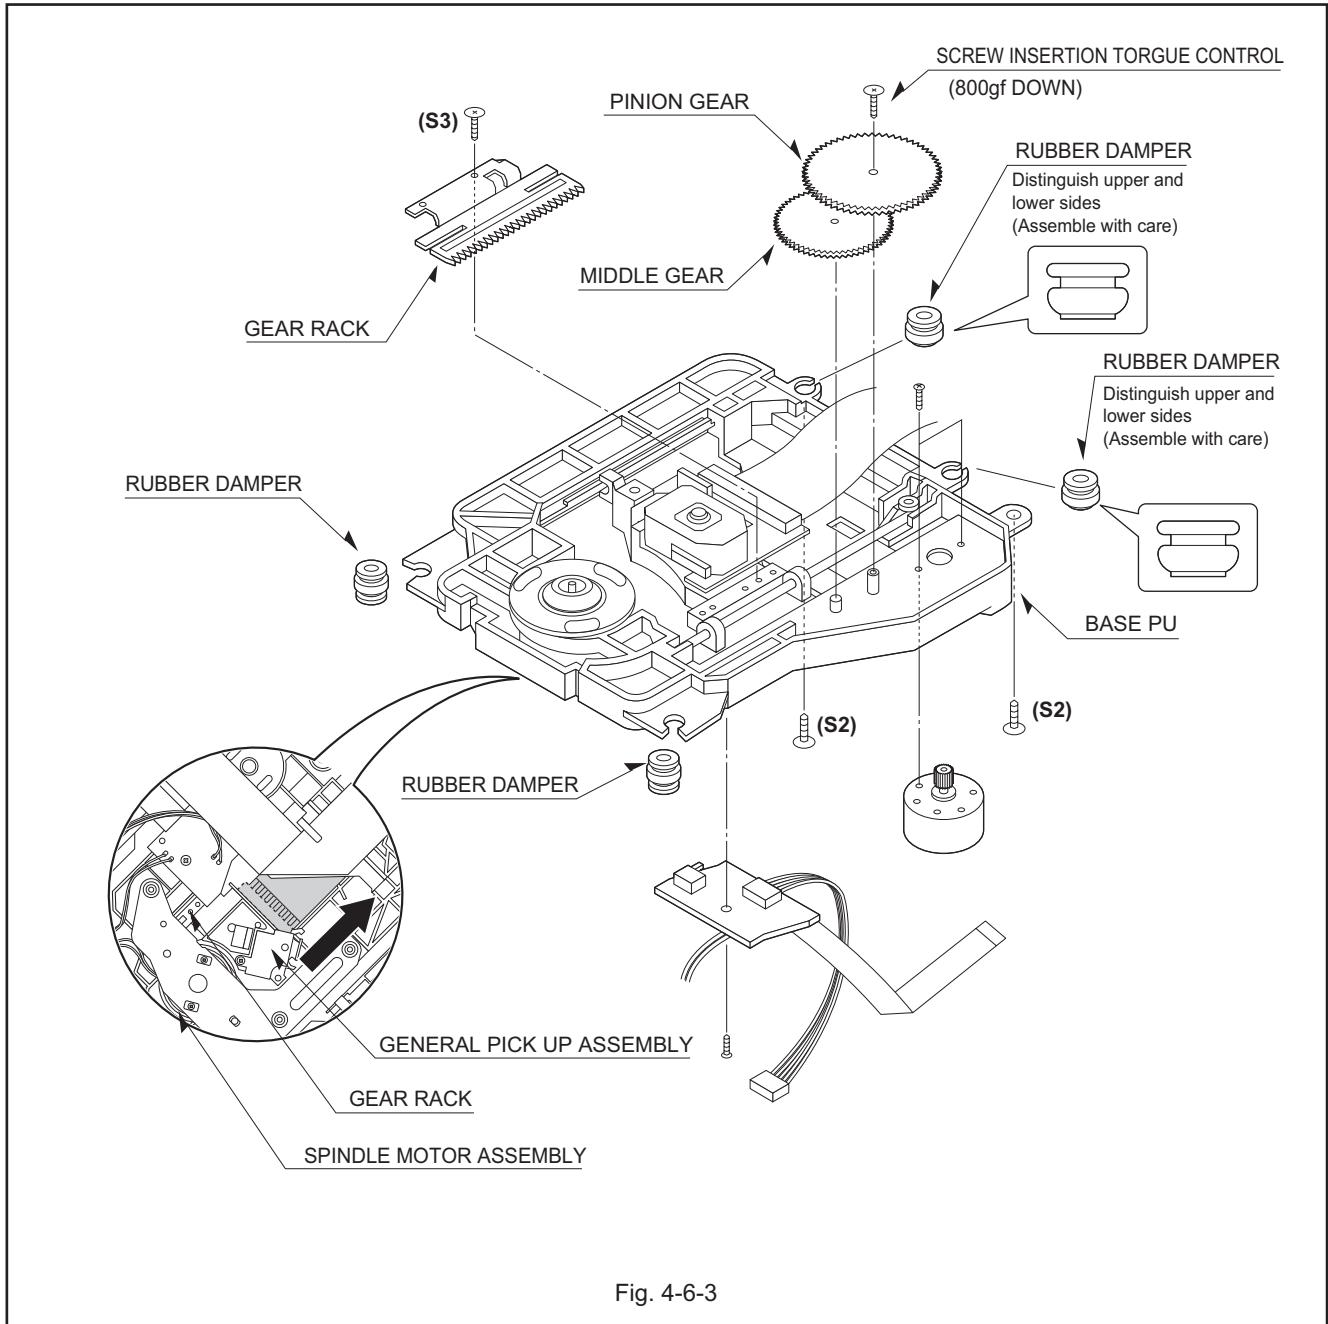

Fig. 4-6-3
3. Base Assembly Sled (Fig. 4-6-3)
4. Rubber Rear (Fig. 4-6-3)